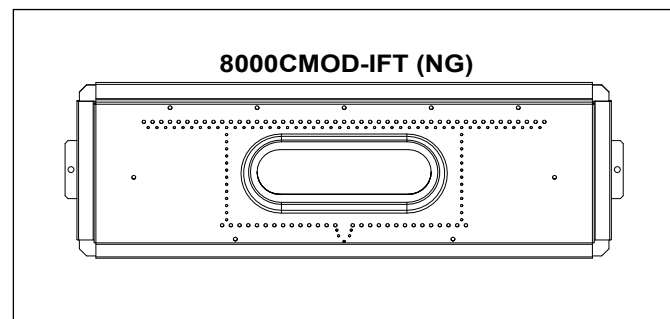

**Figure 4.7 Valve Assembly Removal**
6. See Figure 4.7 for valve assembly removal.